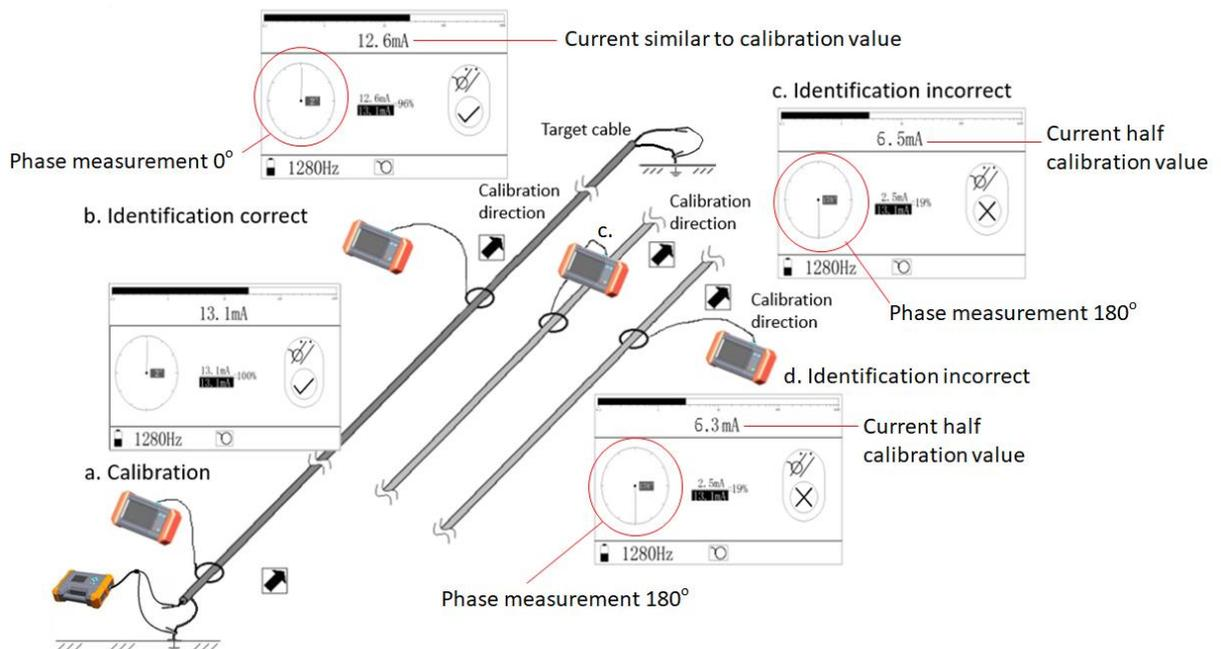

Figure 5.5: Results for three parallel cables with core conductor earth connection
- The first example (Figure 5.5) shows three cables, including the target cable, are in the same path. The measurement result will show the target cable current is  $I$ , and the phase is near  $0^\circ$ , indicating that the identification is correct; the current of the two adjacent lines will be half the value of  $I$ , with the phase near  $180^\circ$ , leading to recognition of incorrect cables.